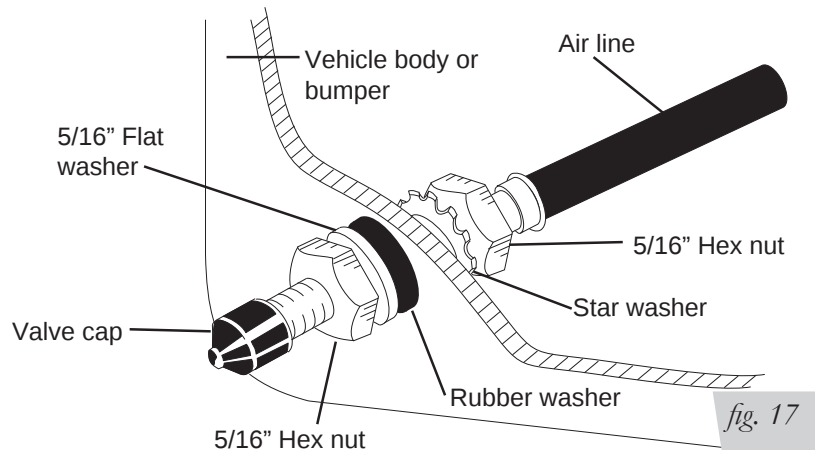

fig. 17
4. Place a 5/16" nut and star washer on the air valve. Leave enough of the inflation valve in front of the nut to extend through the hole and have room for the rubber washer, flat washer, and 5/16" nut and cap. There should be enough valve exposed after installation—approximately 1/2"—to easily apply a pressure gauge or an air chuck (fig. 17).